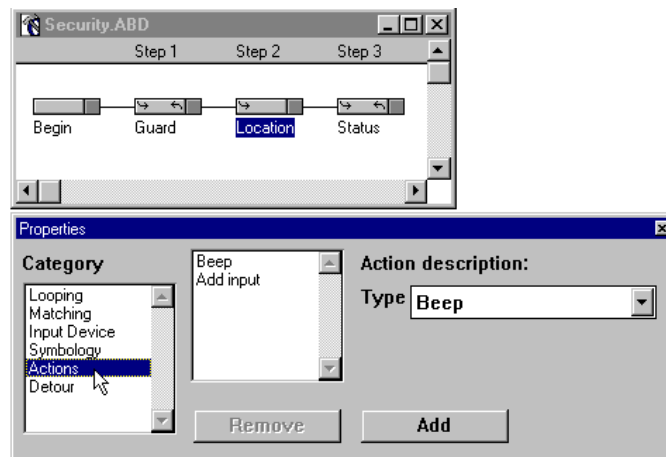

Figure 3-37 “Location” Handler - Actions Property
33. Select **Actions** from the **Properties** window (Figure 3-37).